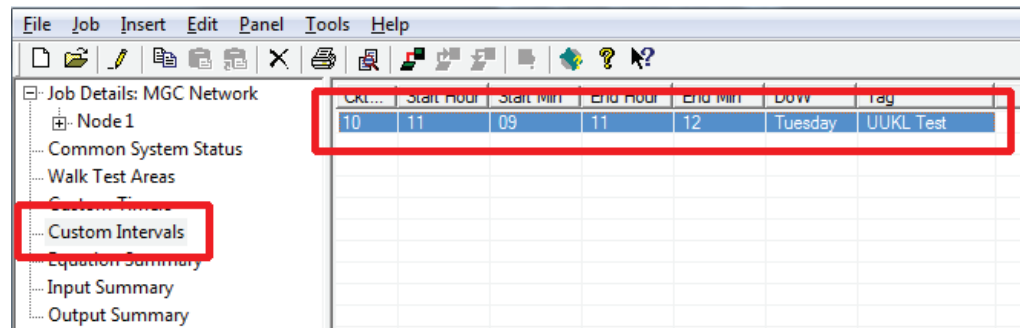

Figure 37 Interval for UUKL testing
1. Create an interval for your testing time and cycle. Figure 37 shows an interval called **UUKL Test** from 11:09 am to 11:12 am every Tuesday. See section 8.2 on page 49 for more information.